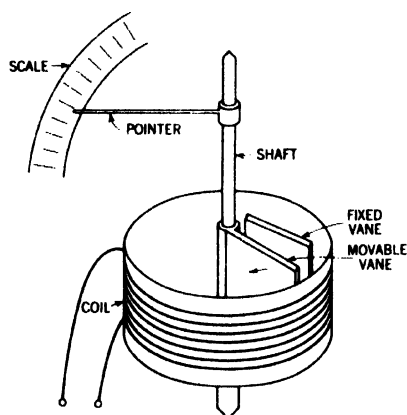

Fig. 31-23. Diagram of a moving-vane a-c meter.
**The Iron-Vane Type of Meter.** Another method is to construct a meter as shown in Figure 31-23. Two soft-iron pieces, or vanes, are placed inside of a coil of wire. One of these vanes is fixed, and the other is free to move. Attached to the movable vane is a shaft carrying a pointer. As current passes through the coil, the vanes become magnetized. Since they are magnetized in the same way (north pole to north pole and south pole to south pole), even though the direction of the current is